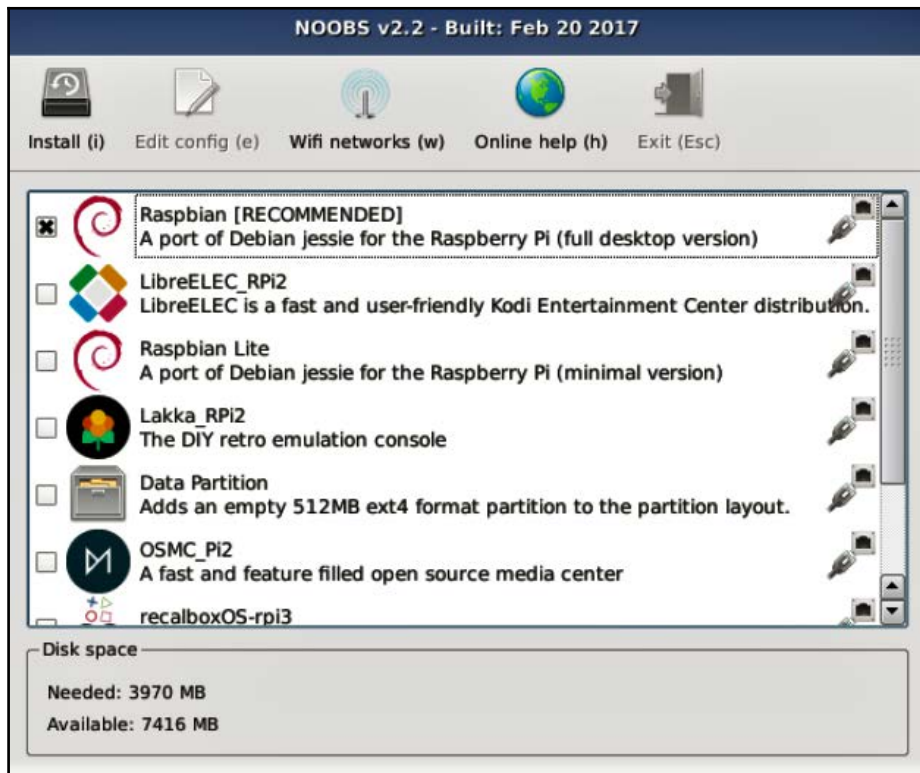

Figure 2.5
7. Power on the Raspberry Pi after connecting a monitor, keyboard, and mouse to it. You will see the NOOBS screen (refer to *Figure 2.5*) with the option of the OS you want to install. Nowadays, only Raspbian is available in a NOOBS installation: